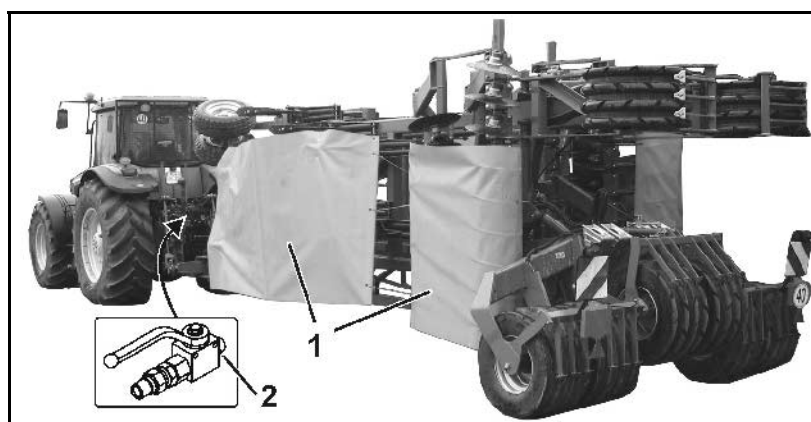

Fig. 7
- Protective tarpaulin for road travel (Fig. 7/1).
- Ball valve to prevent unintentional folding out (Fig. 7/2).